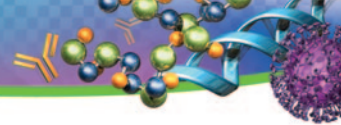

**Figure 6**
- ▶ Despite oxygen oxygen limitation at very high cell density, cells recover well in flatware and iCELLis Nano 4 m2 bioreactors (Figure 6)